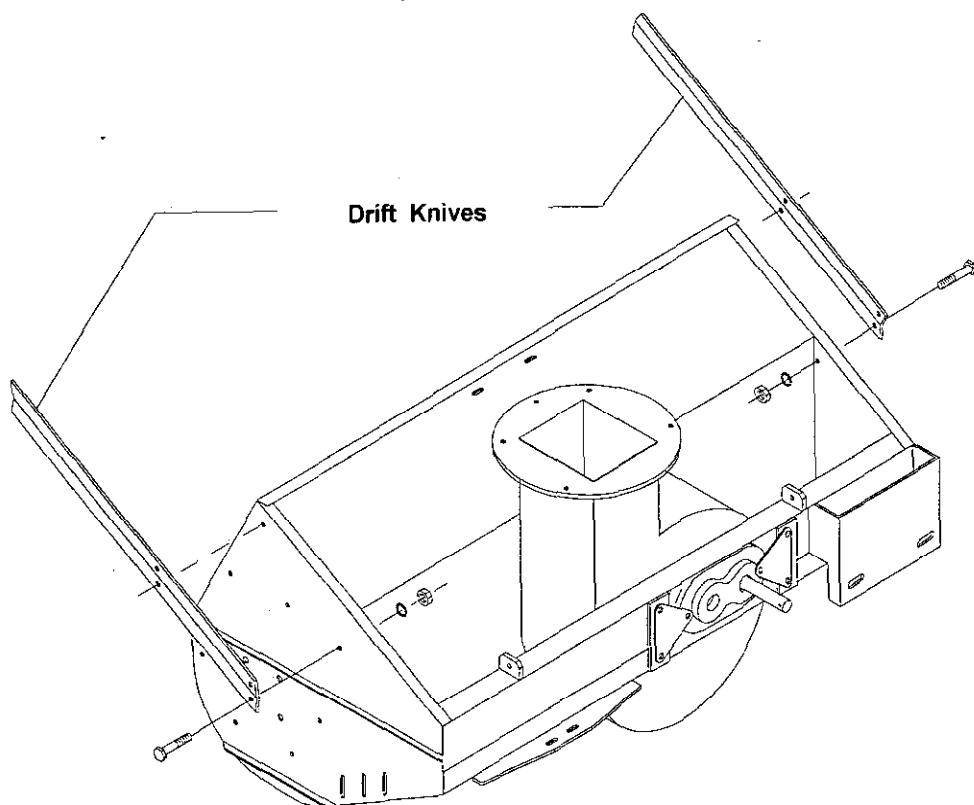

Figure 1
ATTACHING OPTIONAL DRIFT KNIVES (Fig. 1)
1. Fasten the drift knives to each side of the Snow blower as shown in Fig. 1 using the 3/8 x 1" bolts.
ATTACH SNOW BLOWER TO 300 SERIES GROUNDSMASTER (Fig. 1)